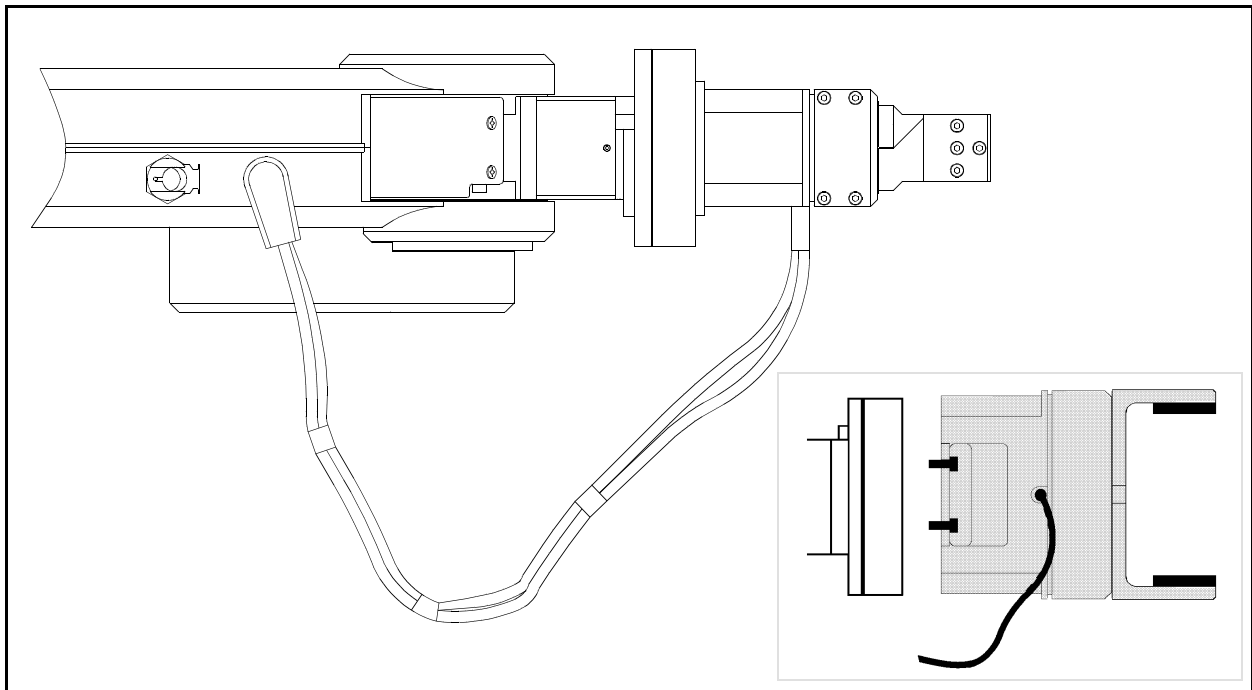

Figure 4-10: Connecting Gripper to SCORBOT-ER IX
The electric DC servo gripper is shown in the inset in Figure 4-10.
Refer to Figures 4-10 and 4-11.
2. Connect the gripper cable to the electrical connector on the robot arm. Make sure the connector is oriented as shown in Figure 4-10.